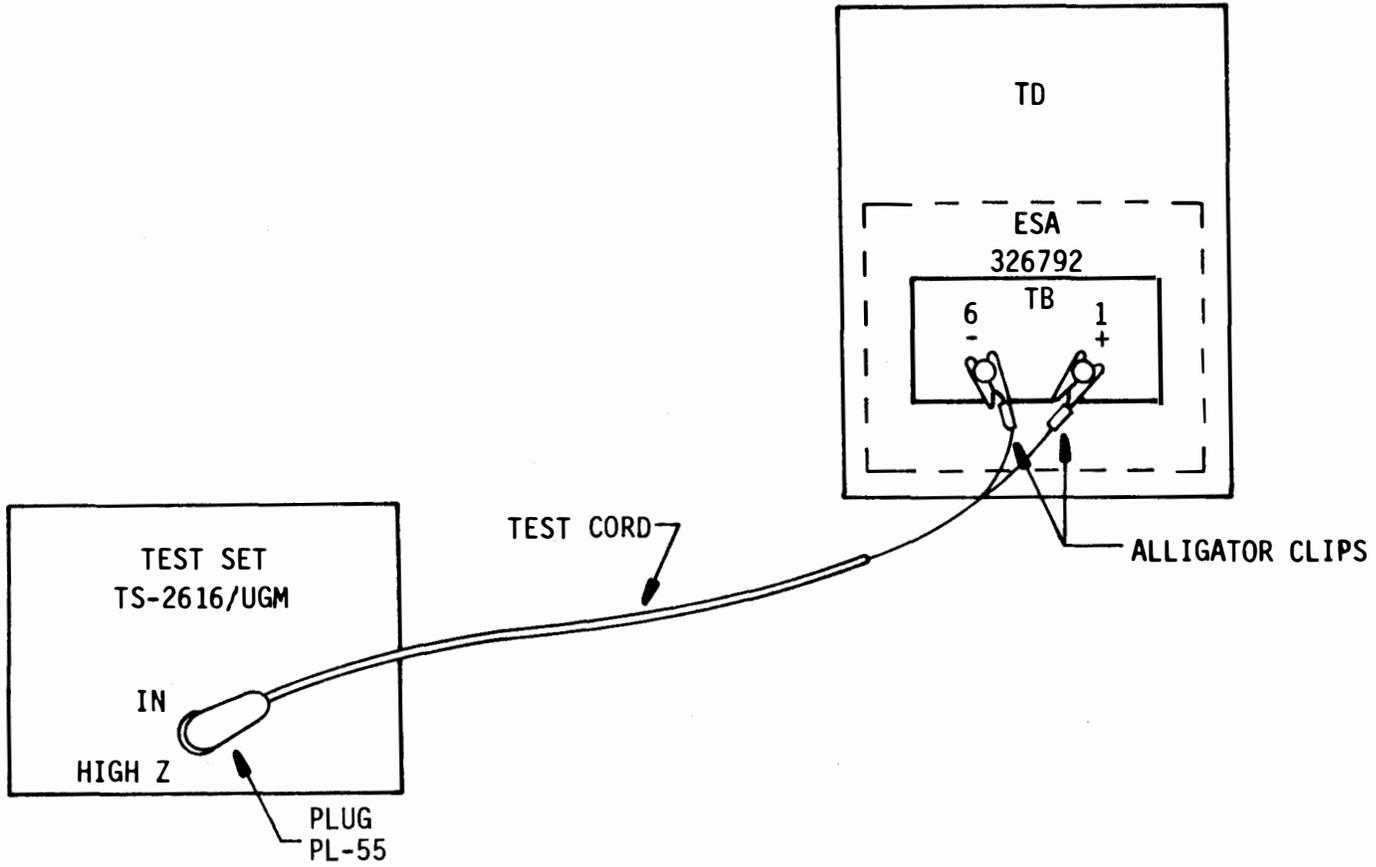

Figure 4-3. TD Test Setup (Low-Level)
(2) Operational Tests (Low-Level). Figure 4-3 shows test setup required to perform low-level test procedures described in table 4-6. If abnormal indications are encountered during a test, refer to Troubleshooting Index, table 5-1, in Chapter 5. Prior to conducting the tests, perform the initial control settings on the TS-2616/UGM test set as described in paragraph 4-8.b(1).
1.	<p>Preliminary.</p> <ul style="list-style-type: none"> <li>a. Ensure TS-2616/UGM test set controls are set as indicated in paragraph 4-8.b(1).</li> <li>b. Ensure main power switch on TD is set to off (down) position.</li> <li>c. Refer to figure 4-3.</li> <li>d. Plug TD, test set, and ESA power cords into 115 vac outlets.</li> <li>e. Set power switches on TD, test set, and ESA to on position.</li> </ul>